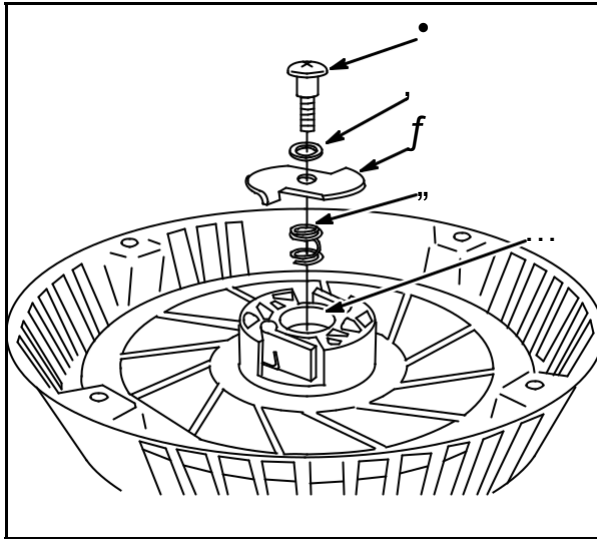

Fig. 64
Remove shoulder screw (1), small washer (2), retainer (3), brake spring (4) and large washer (5), **Fig. 64**.